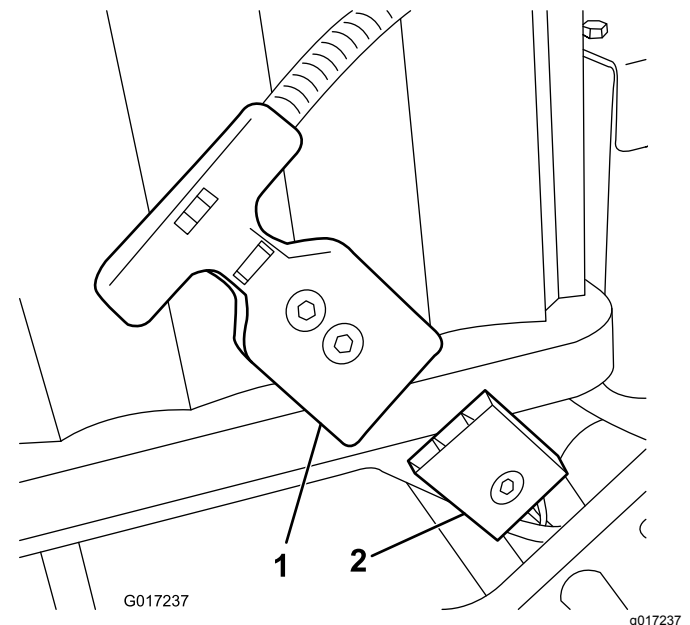

Figure 15
Note: If you cannot mate the battery pack receptacle with the machine wiring harness plug while the battery pack is installed, you can instead connect the harness to the battery pack and then install the battery pack. Remove the main power supply connector (Figure 15) from the battery base. Install the connector to the battery as described. Install the battery to the base, threading the attached wiring harness through the appropriate hole, and then secure the main power supply connector to the battery base using the fasteners previously removed.
16. Connect the T-handle connector from the main wiring harness to the main power supply connector on the battery base (Figure 15).